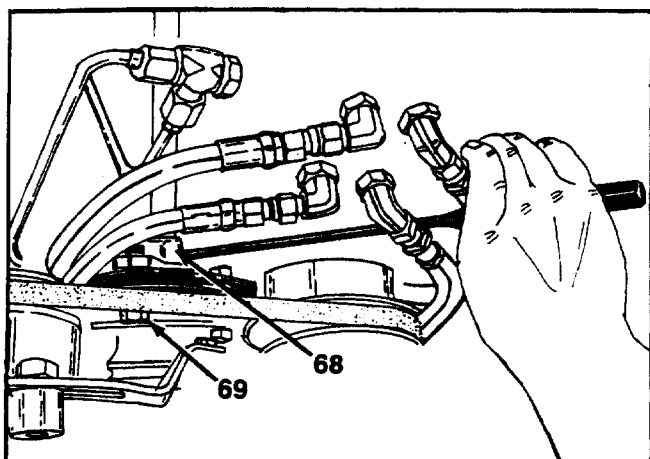

FIGURE 34.
37. Working through the frame cover opening, remove two nuts and washers securing the drive shaft to the drive shaft flange on the crankshaft pulley. See figure 34.